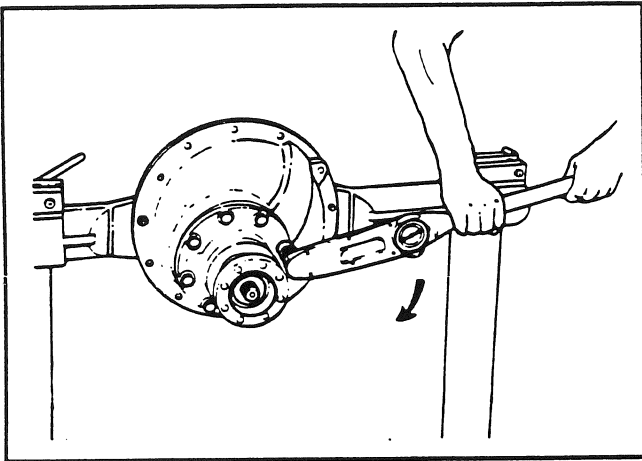

Fig. 50
4. Install the bearing cage retaining bolts and lock-washers. Tighten the bolts to the specified torque (see Fig. 50). Install the input yoke and nut on the drive pinion. The yoke must fit against the outer bearing cone. You are recommended to use the three-piece pilot tool P/N 58439 when installing the yoke. The yoke and pinion splines are an interference fit and the pilot tool helps you correctly install the yoke. Refer to the procedure in **Adjusting Drive Pinion Bearing Preload - Yoke Method**.